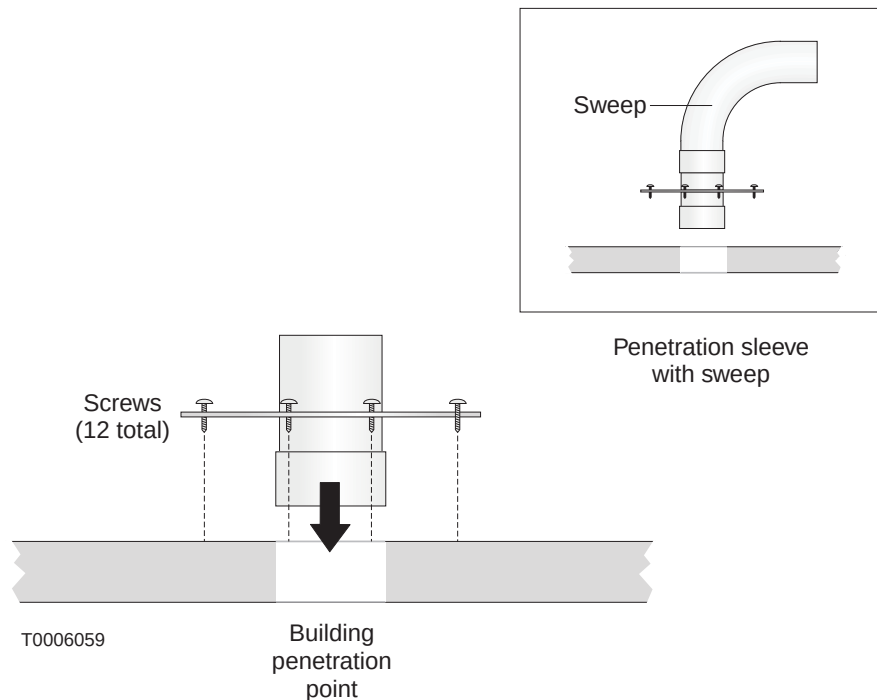

Figure 4-4 Installing the RT penetration sleeve
1. Use twelve screws to attach the RT penetration sleeve (sleeve and coupling) to the building surface at the building penetration point. See figure 4-4.
Note: If space is limited, use a 90° sweep, as illustrated in figure 4-4.
2. Run the cable from the IDU chassis location, through an existing conduit if possible, through the RT penetration sleeve (figure 4-4), to the lightning arrestor location. Use a stand so the cable spool spins freely as it is pulled. Leave a service loop.